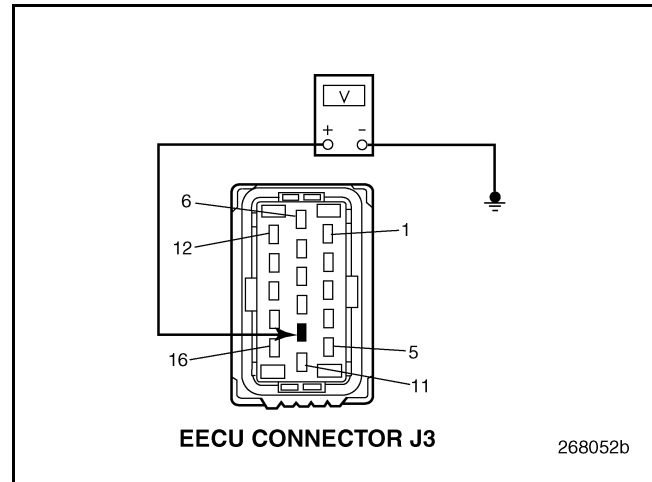

Figure 759
4. Measure the voltage between EECU connector J3 pin 10 and a good ground (see Figure 759).